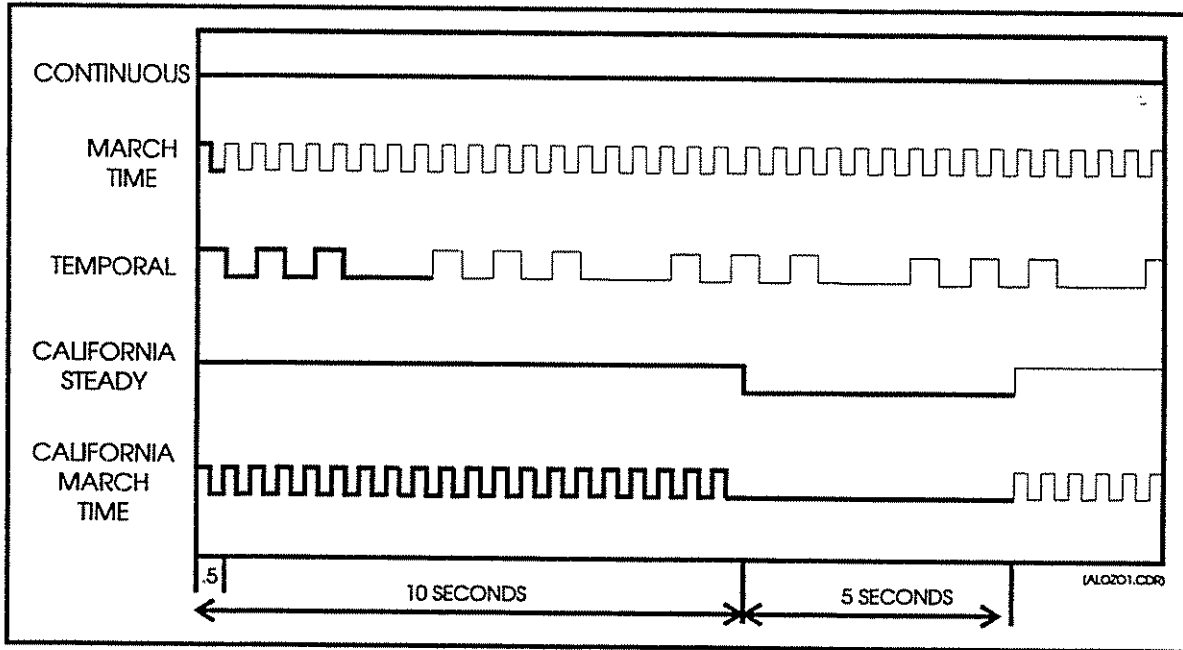

Figure 3.3 - Indicating Appliance Circuit Rates
- **Programmable Options** include: verified or non-verified alarm Initiating Device Circuits (IDCs) supporting dry contact alarm initiating devices and high impedance smoke detectors; Indicating Appliance Circuits (IACs) programmable as silenceable or non-silenceable with continuous, 120 Strokes per Minute (SPM), California, or temporal rates (Figure 3.3). The temporal rate meets the requirements of the national emergency evacuation signal. Automatic alarm silence and alarm silence inhibit timers are provided. An AC/brownout 6 hr trouble delay timers is provided when the 2400-RCT is used to transmit trouble signals off premise.
The two supervised Indicating Appliance Circuits (IACs) operate using compatible 24 VDC (nominal) polarized signaling appliances. Each circuit is rated at nominal 24 VDC @ 1.0 Amp, with a total of 1.5 Amps available for both circuits. An IAC may be programmed as either silenceable or non-silenceable. Signal rate selection is independently programmable for each IAC, as shown in Figure 3.3. Refer to the appendix for compatible Indicating Appliances.